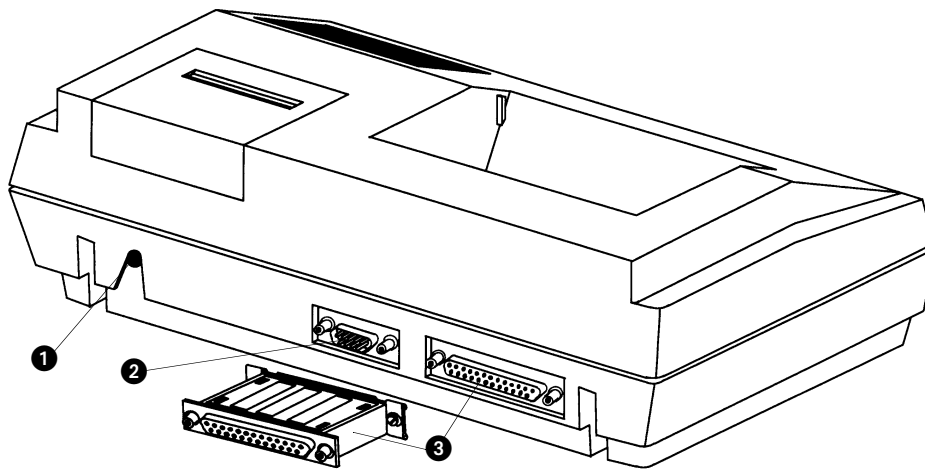
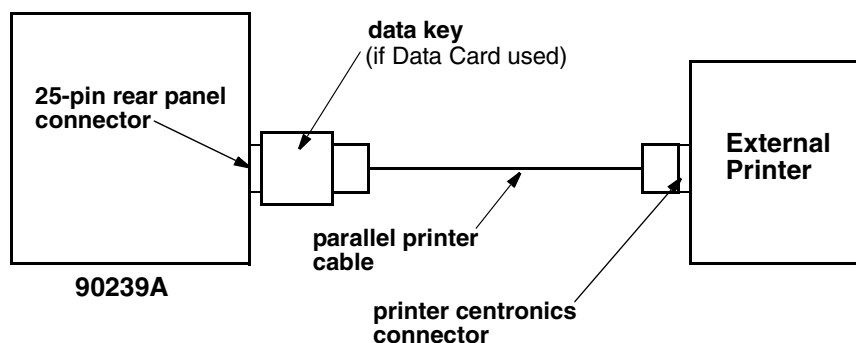

Figure 1-2: 90239A rear view
Figure 1-5: External printer configuration
90239A Report Generators with software versions 1.13.04 and higher can print reports and messages on an external printer connected to the 25-pin connector located on the back panel (refer to *Figure 1-2*, item ③). This configuration requires use of a parallel printer cable and, if the Data Card option is used, a data key must be installed between the 90239A rear panel connector and the printer cable. (Refer to *Figure 1-5*.)
Beginning with software version 1.13.04, the 90239A can print reports and messages on an external printer connected to the 25-pin connector located on the back of the report generator. This configuration requires use of a centronics parallel printer cable and, if the Data Card option is used, a data key installed between the 90239A rear panel connector and printer cable. Refer to *Figure 1-5* below.